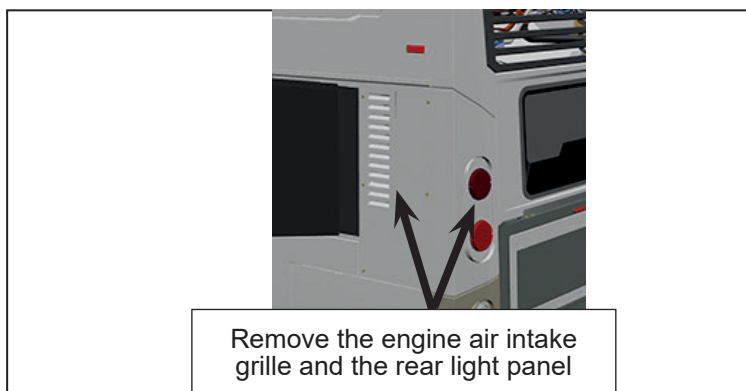

Figure 1 - Engine Air Intake Panel and Rear Light Panel
- 1.3. Remove the street side engine air intake grille and the rear light panel. Retain the grille, the panel and the hardware. See Figure 1.